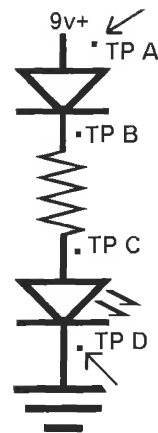
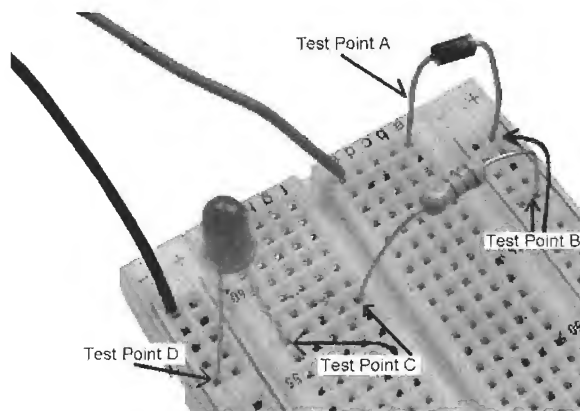

Figure L3-12
Figure L3-13
3. Place the red (+) probe at test point A (TP-A) and the black (−) probe at TP-D (ground). The arrows in the schematic shown in Figure L3-12 indicate where to attach the probes. Corresponding test points have been noted in Figure L3-13 as well.